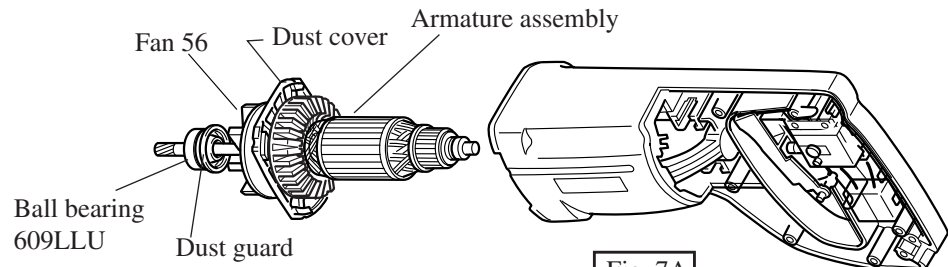

Fig. 7A
- 3) Remove armature assembly together with dust cover and fan 56 as illustrated in Fig 7A.